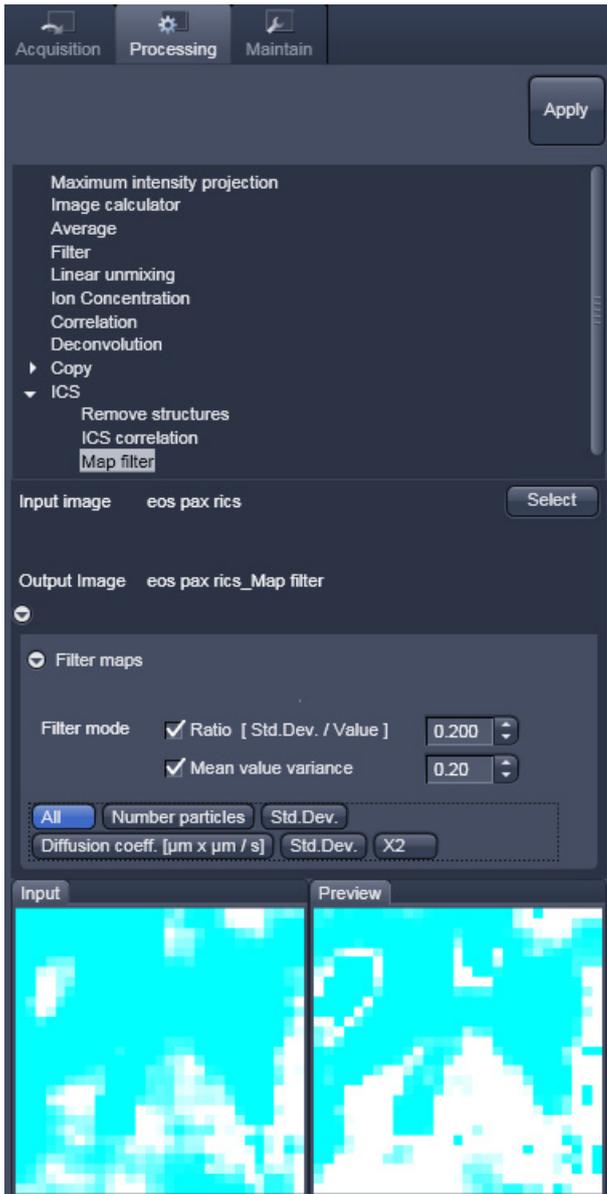

Fig. 5-85 Map filter menu
- Activate **Map filter** in the **ICS** tool. The **Map filter** menu will appear (Fig. 5-85).